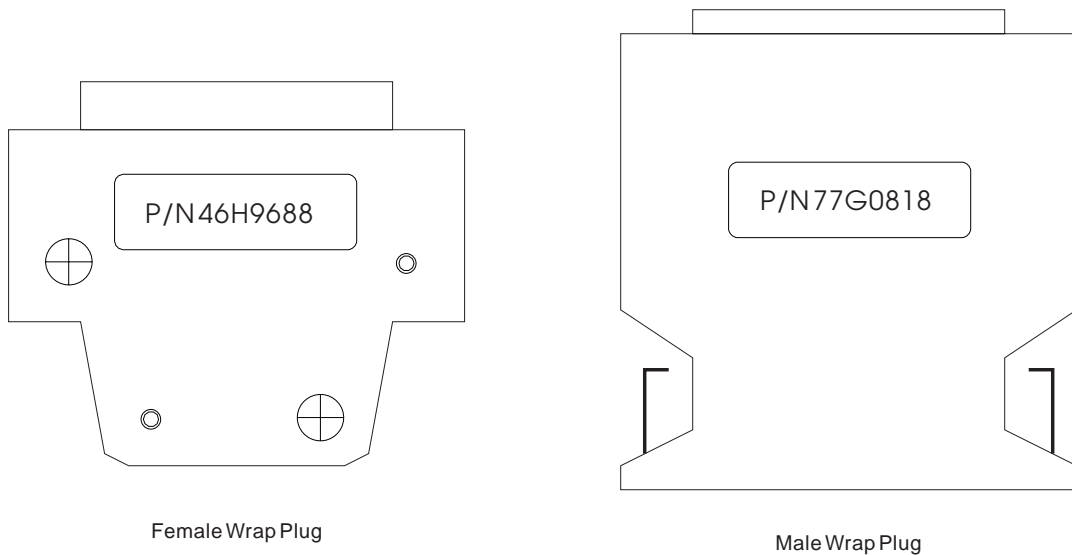

Figure 1-2. SPS Wrap Plugs
- Switch wrap plugs (male 77G0818 and female 46H9688 for SPS). Refer to Figure 1-2 on page 1-7 for views of the wrap plug.